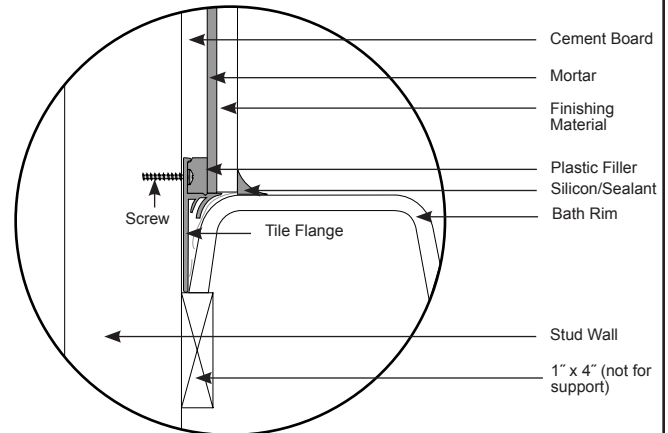

Figure 12 - Support
- 4 Place the bathtub into the niche. Screw the flange to the wood stud. It may be necessary to shim the unit to close up any gaps between the wood stud and the flange (Figure 12).